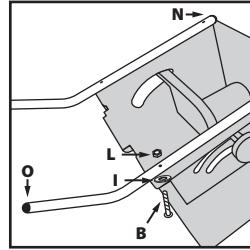

Fig. 3
- Attach the two components to the machines main body using fixings **B, I and L (Fig. 3)**.